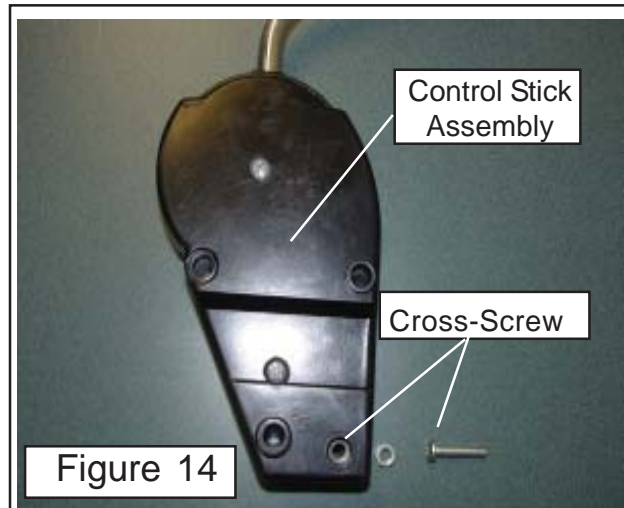

Figure 14
1. First remove the Cross- Screw from the bottom of the Control Stick Assembly. **DO NOT** remove the screws that fasten the two housings halves together (See Figure 14).